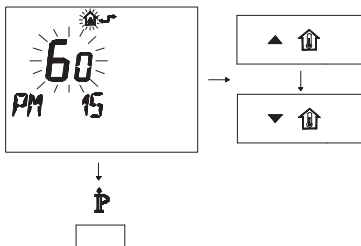

Fig. 7.17
- Modify the programmed SET by acting on buttons or until a setting of 60 is displayed, wait for the number programmed to flash (Fig. 7.17)